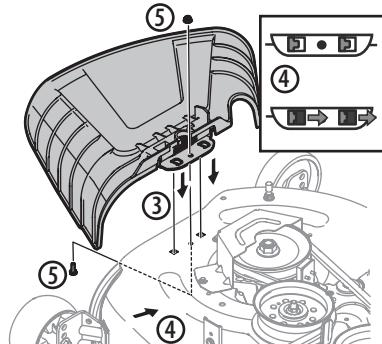

Figure 9
See Figure 9.
4. Slide the chute deflector toward the rear of the tractor until the bolt hole in the chute deflector aligns with the hole in the deck. See Figure 9.